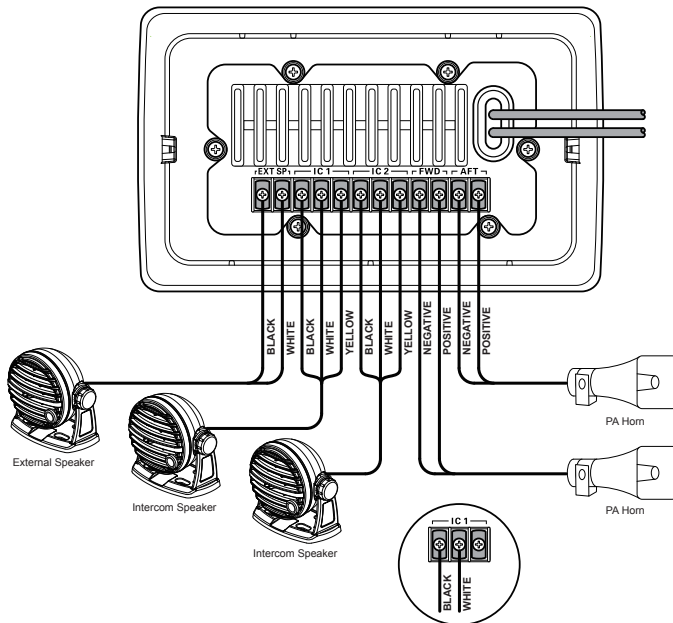

Figure 2. Electrical Connections
Refer to Figure 2 and complete the following steps for the electrical installation.
6. See Detail “A” in Figure 2, If a 2-wire speaker (such as a MLS-300 External Speaker) is connected to the Intercom terminals (“IC1” or “IC2”), the positive wire should be connected to the center terminal and negative wire should be connected to the left-hand terminal. Do not connect the any wire to the right-hand terminal! If you connect one of the wires of a 2-wire speaker to a right-hand terminal, the speaker will beep continuously when turned on.